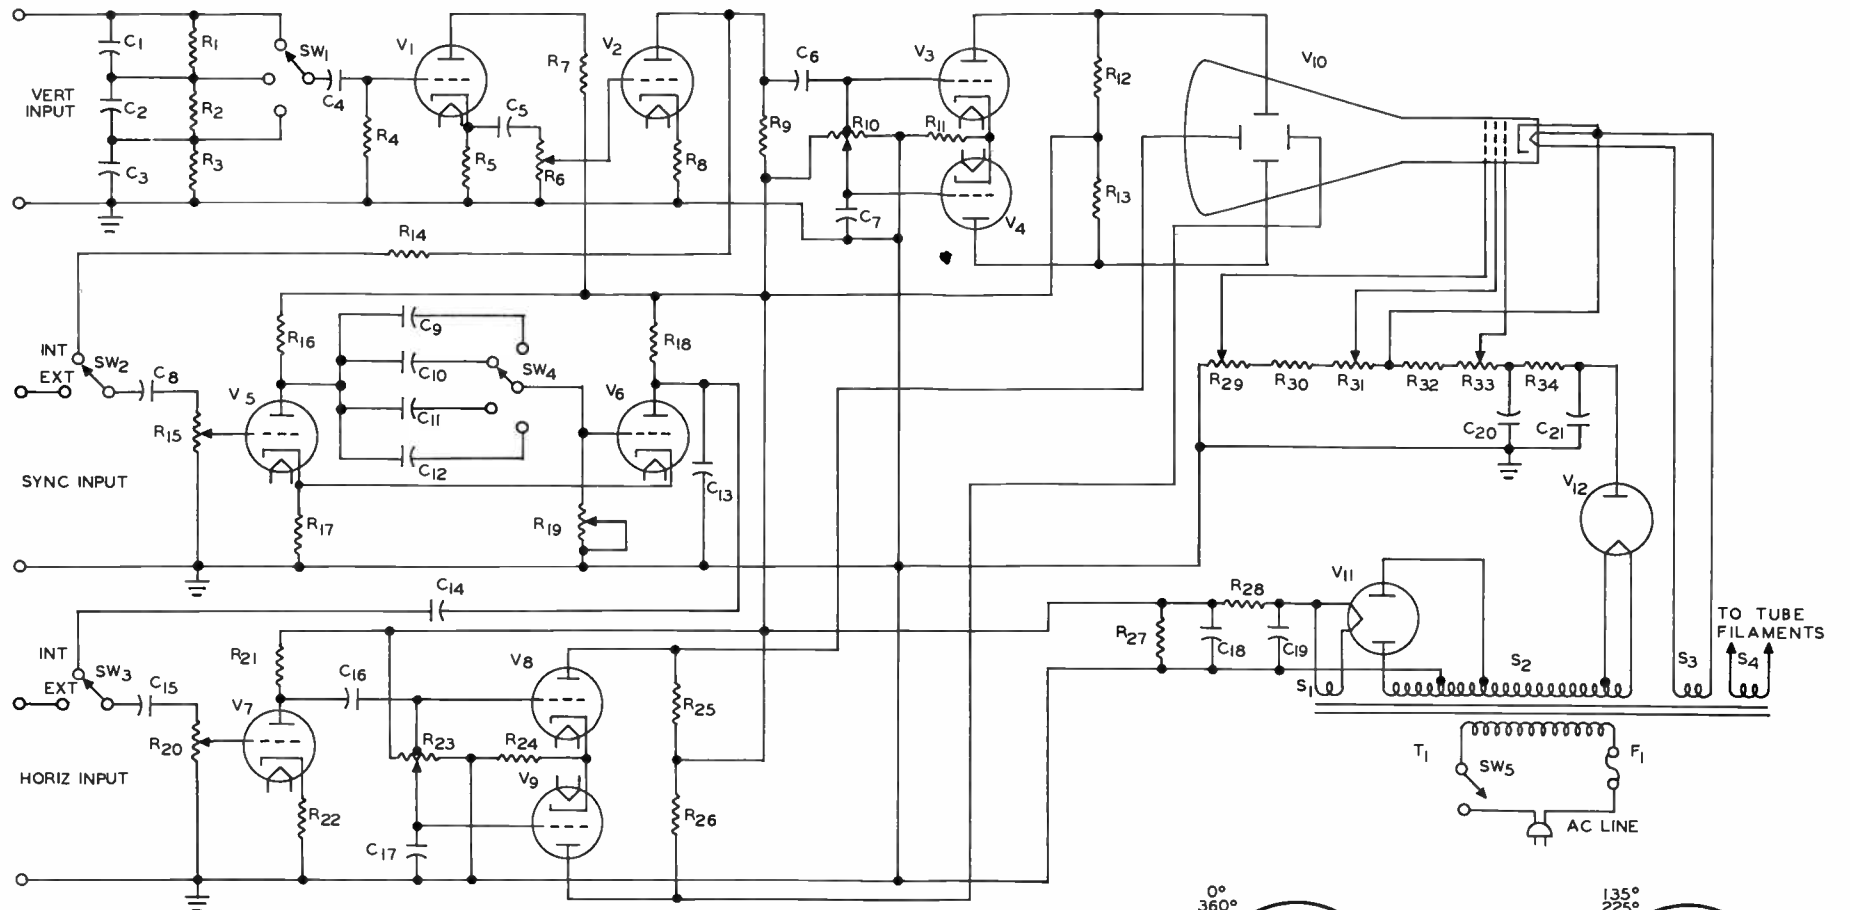

FIGURE 12
35. (1) the vertical amplifier of the scope, (2) the ac line, (3) an external source such as an accurate signal generator.
38. (b) decrease. -- At the setting shown in Figure 12 the full input signal is applied to V_1 . At the other two settings, some fraction of the input signal amplitude is applied to V_1 .
- In Figure 12, the internal sync signal is obtained from the